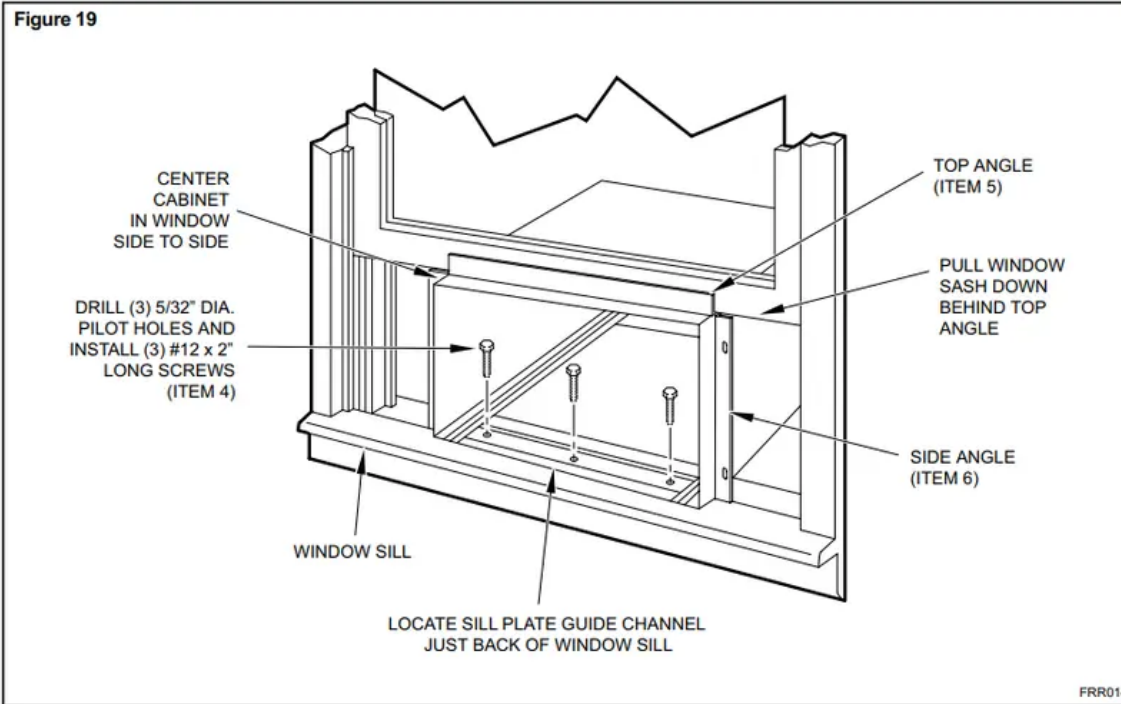
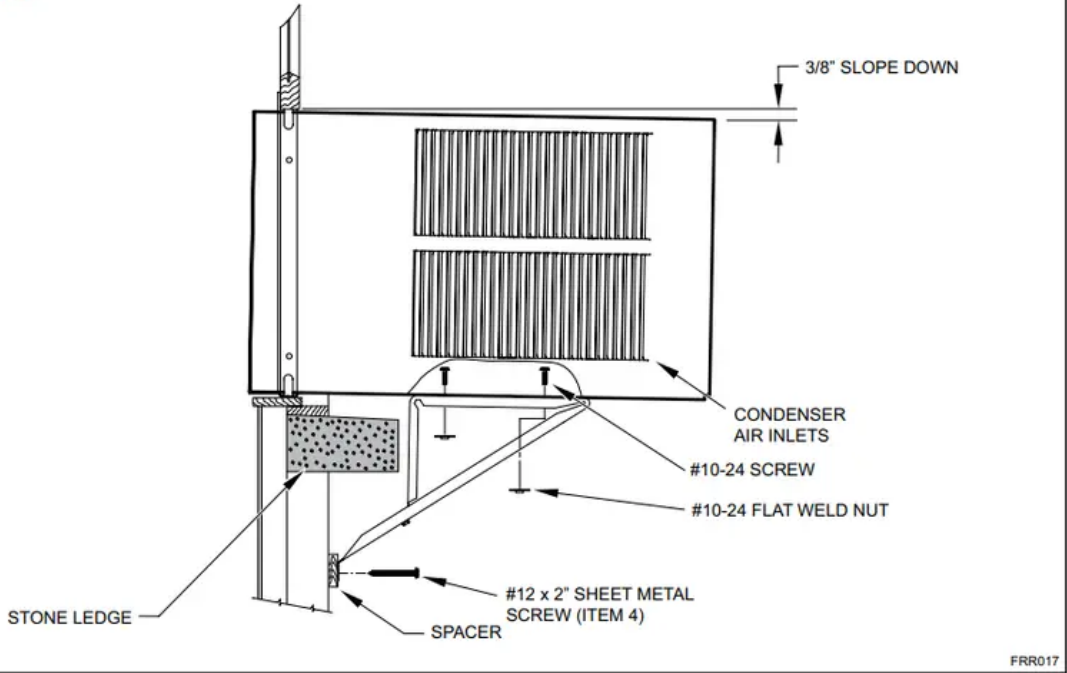

Figure 20
Figure 23
**OUTSIDE SUPPORT MOUNTING** – Refer to Figures 20 and 21. Assemble the support brackets (Item 1) to the bottom of the cabinet with four (4) 10-24 1" long screws (Item 2) and four 10-24 flat nuts (item 3 ). Adjust the support brackets, using a combinations of the elongated holes of the bracket and different hole locations in the cabinet, to bring the bottom support bracket pads in contact with the wall. A 1" x 4" or 2" x 4" SPACER SHOULD BE USED BETWEEN THE WALL AND SUPPORT THE BRACKETS WHEN INSTALLED ON ALUMINUM OR VINYL SIDING. Drill 5/32" diameter pilot holes and secure the brackets to the wall with two (2) 12A x 2" long screws (Item 4)
Adjust the support brackets to provide an inside-to-outside slope for excess condensation drainage (Refer to Standard Window Installation, Figures 20 through 24). Tighten all screws. Alternate support method A: If you have a wide window sill which prevents you from mounting the brackets as shown in Figure 23. try the following:
Using the elongated holes and different hole locations in the cabinet. set the placement of the bracket to support the unit's weight (Figure 23).